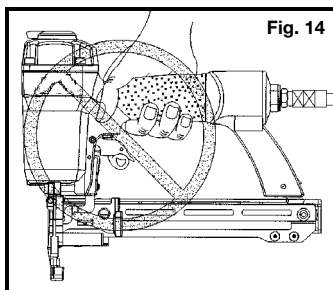

Fig. 14
**21. Remove finger from trigger** when not driving fasteners. Never carry tool with finger on trigger. In “Contact Actuation Mode” tool will fire a fastener if safety is bumped while trigger is depressed. Fig. 14.